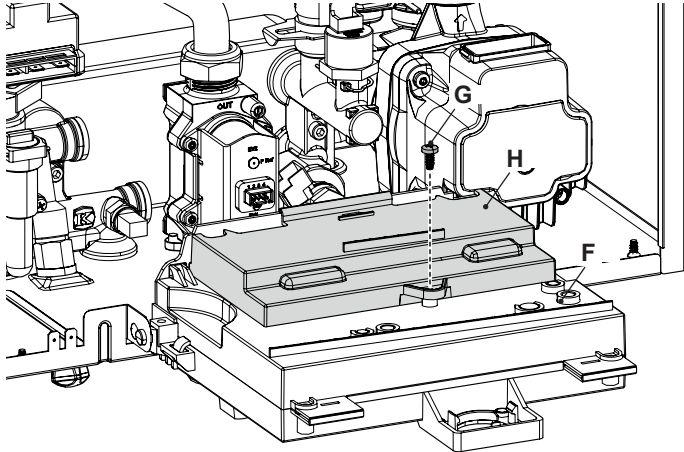

Figure 2.5
- 3 Unscrew the screw "G" and lift the cover "H" to access the electric power supply terminal block, remote and external sensor (Figure 2.5).